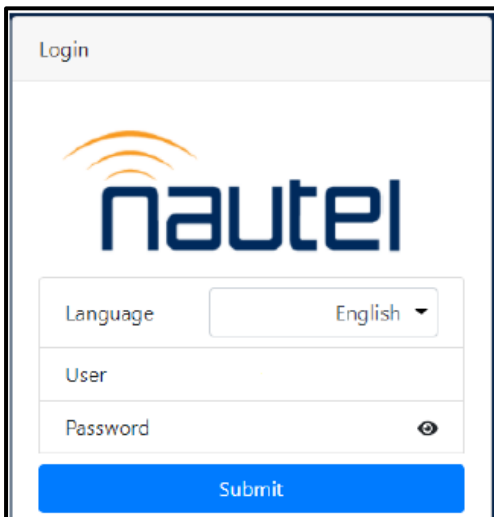

Figure 2-5: VX Transmitter Login Screen
- (b) On each VX transmitter, log in to the remote AUI by entering the Nautel supplied parameters in the login window (see Figure 2-5).